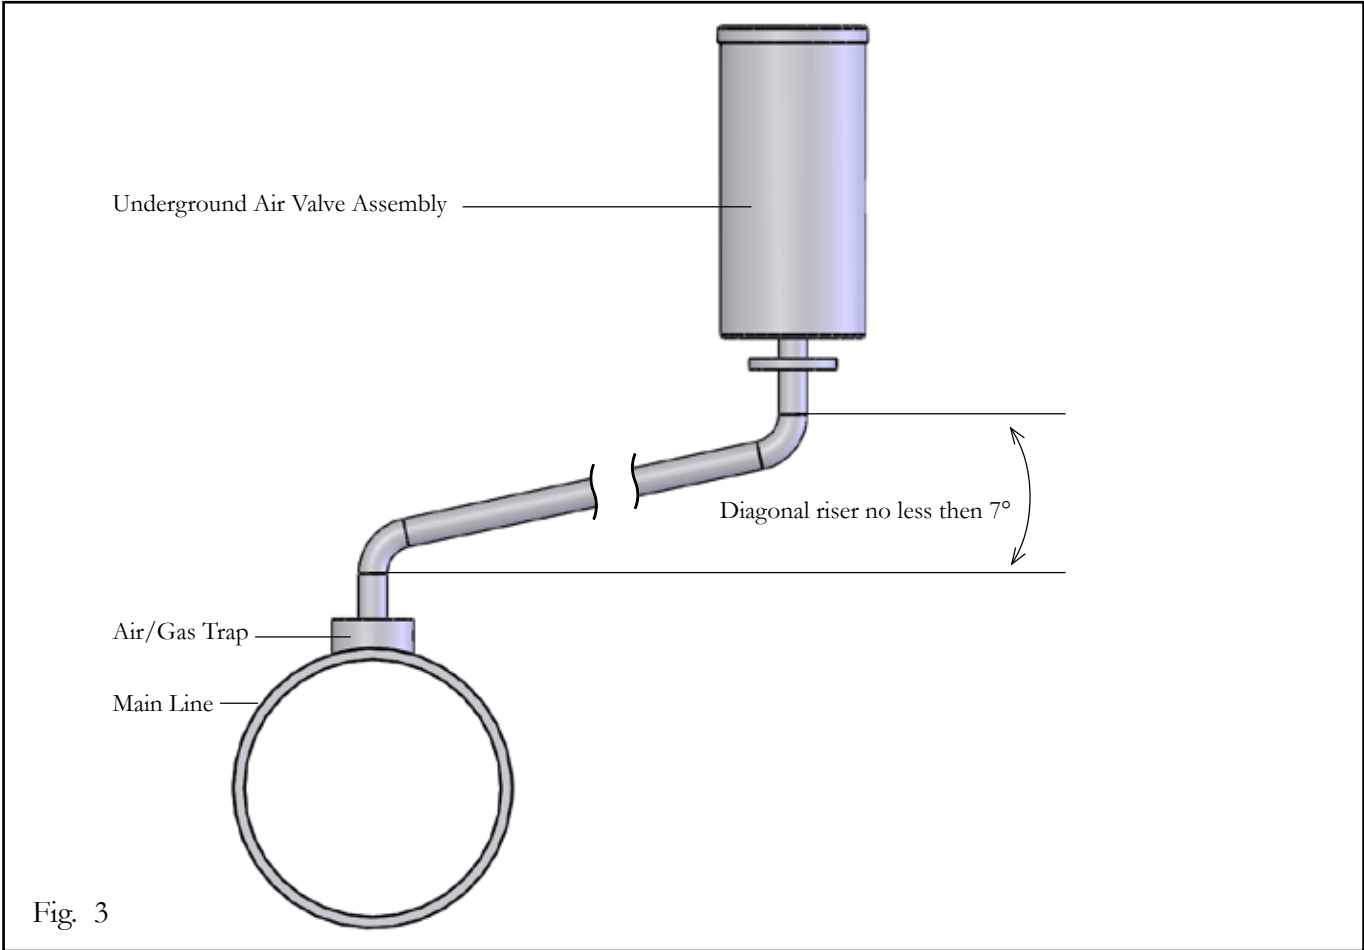

Fig. 3
The distance from the top surface of the Valve Box Cover (2) to the bottom of the access cover {h1} should be between 5 cm (2") and 20 cm (8"). From this point the overall height {H} of the unit from the pipeline flange or riser flange will be measured (See Fig. 3).
The bore diameter {d1} should be at least 40". This will allow at least 12" for the filling material around the Valve Box (5) (See Fig. 3).
The unit must be surrounded with a fine grained filling material such as sand or very fine gravel (in accordance with local standards and by-laws). The filling material must be of a type that will not expand when absorbing water. (See Fig. 3).